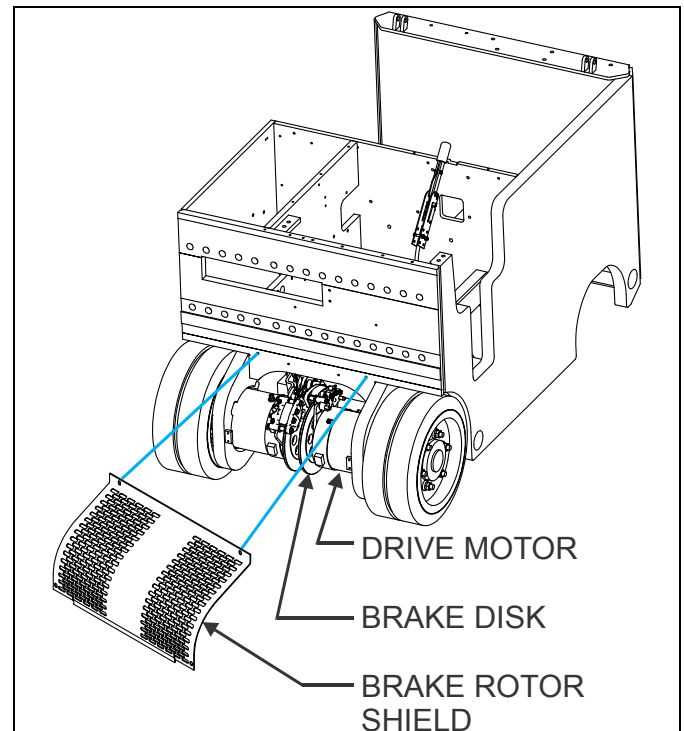

Figure 3-9: Removing Brake Rotor Shield
5. Remove the brake rotor shield (See Figure 3-9).